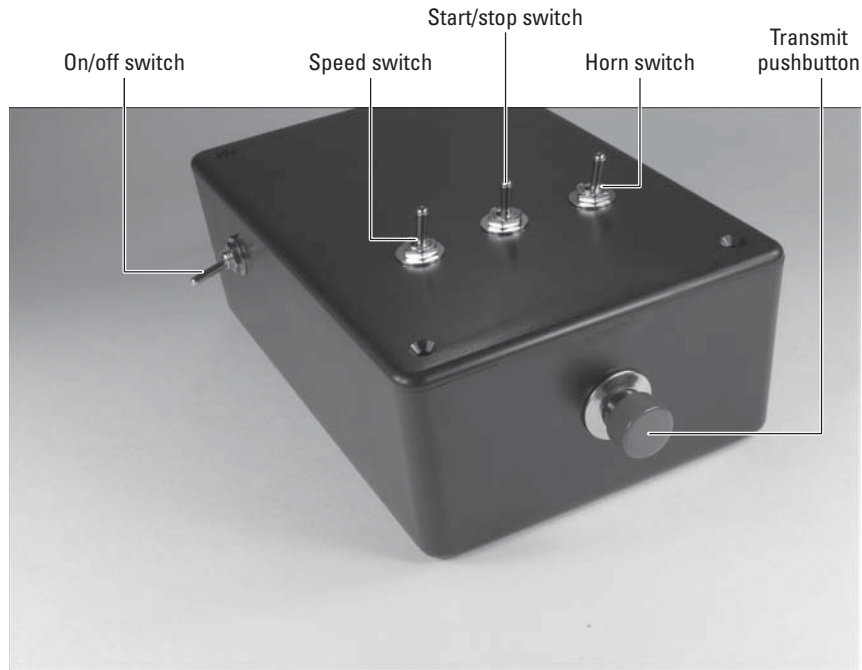

Figure 13-13:
1. Drill holes in the box where you will mount the on/off switch, speed switch, horn switch, start/stop switch, transmit switch, and antenna, as shown in Figures 13-13 and 13-14.